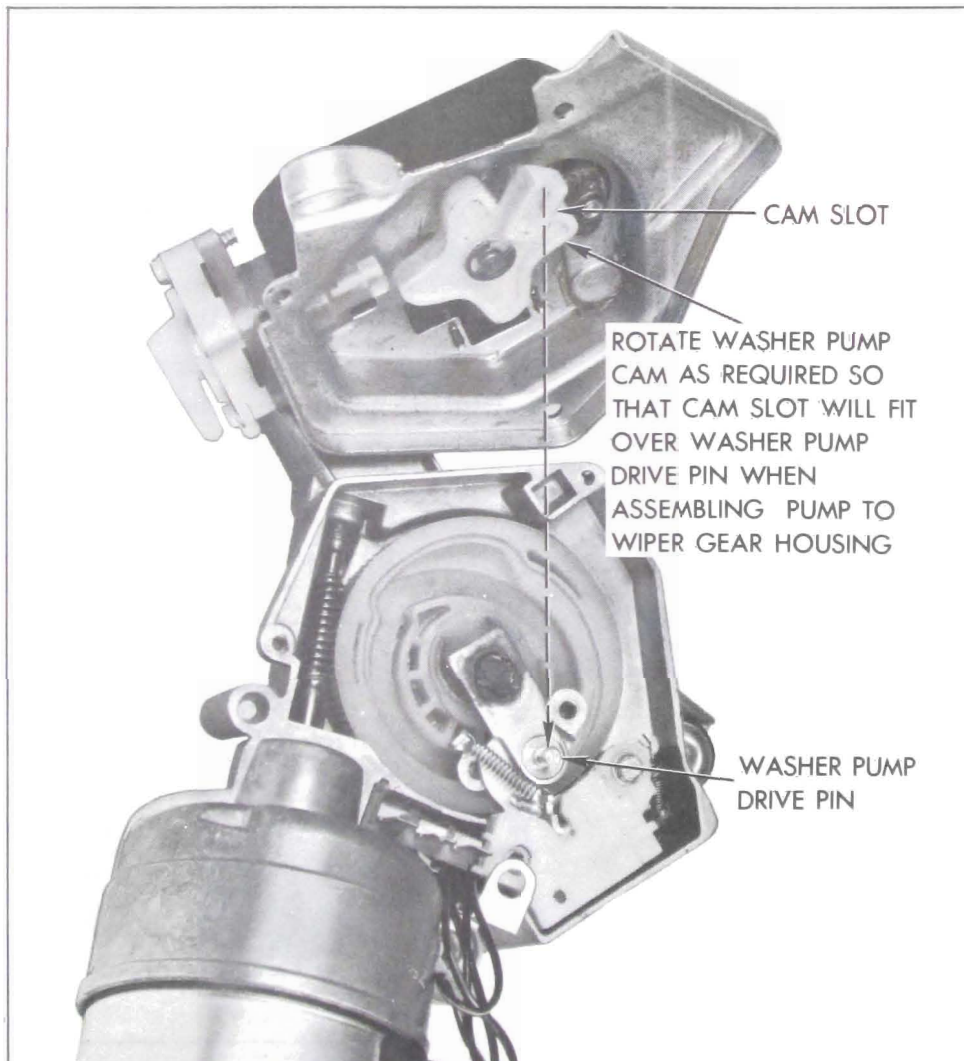

Figure 10-130—Assembling Washer Pump to Wiper
6. Assemble gear box cover and/or washer pump to wiper being careful that the ground strap is properly connected. Refer to Figure 10-130 for assembly of washer pump to gear housing.
9. Reassemble washer pump to wiper. See Figure 10-130.